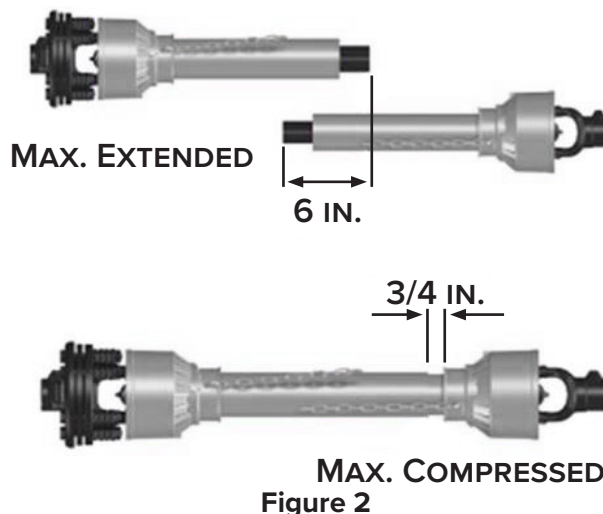

Figure 2
- When the driveshaft is at its maximum operational extension, there must be an overlap between the tube's profiles of at least 6" (150 mm). See Figure 2.